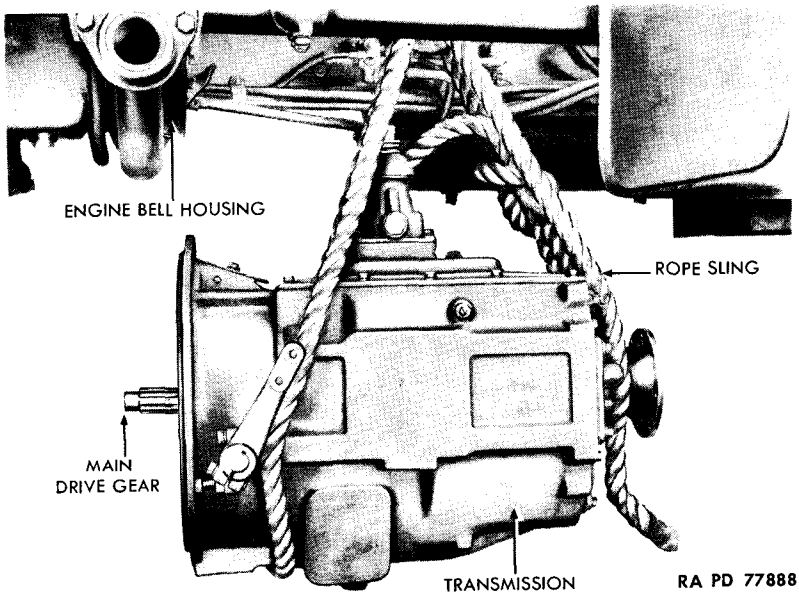

Figure 54 — Removing Transmission
m. Remove Transmission (fig. 54). Attach rope sling to transmission. Attach chain fall or other suitable lifting apparatus to sling, and pull up just enough to take weight of transmission from bell housing. Remove remaining eight cap screws and lock washers (two already removed) which secure transmission to bell housing.
a. **Position Transmission to Clutch Bell Housing** (fig. 54). Slide transmission under vehicle. Attach rope sling, and raise to position about a foot behind bell housing with chain fall and rope sling. Push transmission forward to position against bell housing. Install 8 of the 10 cap screws and lock washers which secure transmission to housing. Remove rope sling and lifting apparatus.